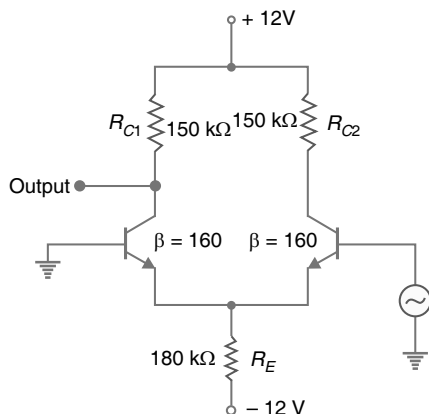

Fig. 23.100
6. For the circuit shown in Fig. 23.100, determine (i) common-mode voltage gain (ii) differential-mode voltage gain (iii) CMRR.